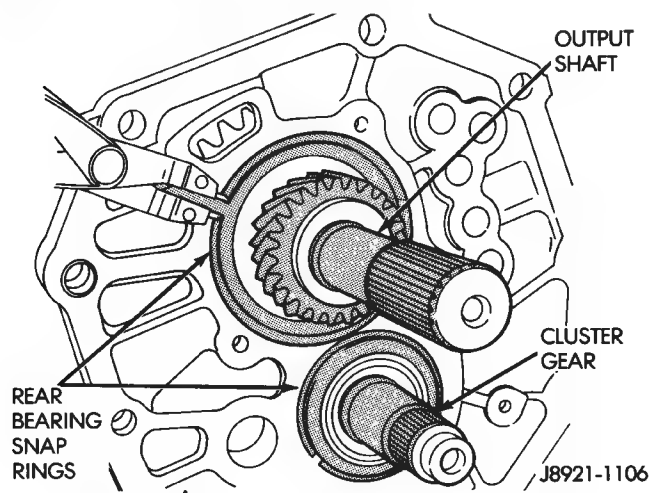

Fig. 82 Installing Rear Bearing Snap Rings
- (5) Start output shaft rear bearing in intermediate plate. Push shaft rearward and tap intermediate plate with mallet to seat bearing.
- (6) Install snap rings on cluster and output shaft rear bearings only (Fig. 82). Do not install front bearing snap rings at this time.